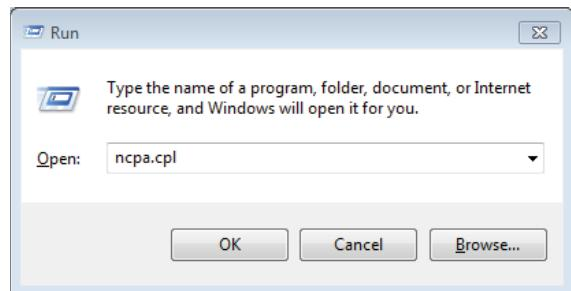

Figure 2. **Run** Window for Network Connections
3. Open the **Start > Run** window and type **ncpa.cpl** into the text box, then click **OK** (see Figure 2).